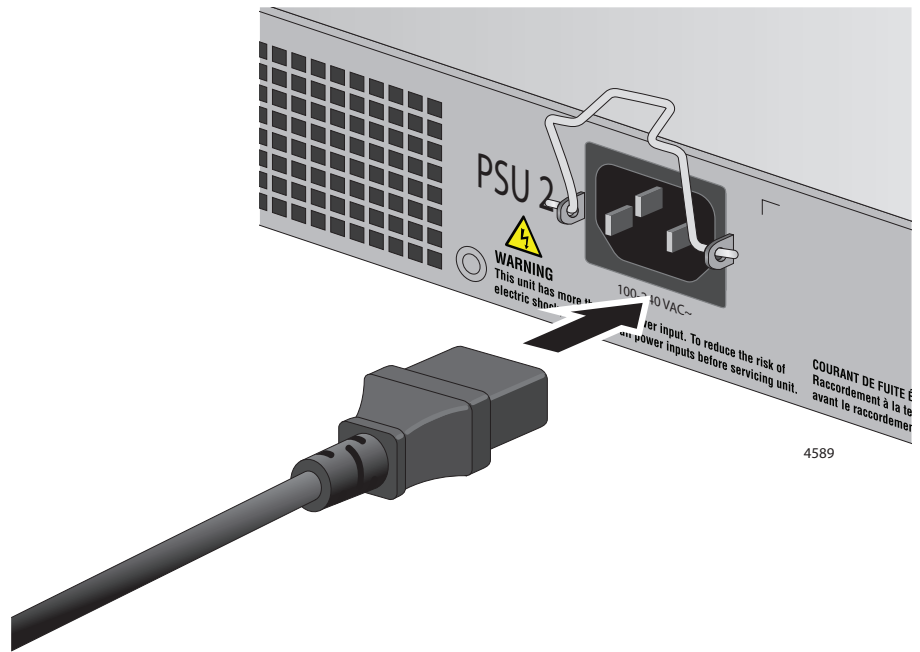

Figure 48. Connecting the AC Power Cord to the Switch
2. Connect the AC power cord to the AC power connector on the rear panel of the switch. Refer to Figure 48.